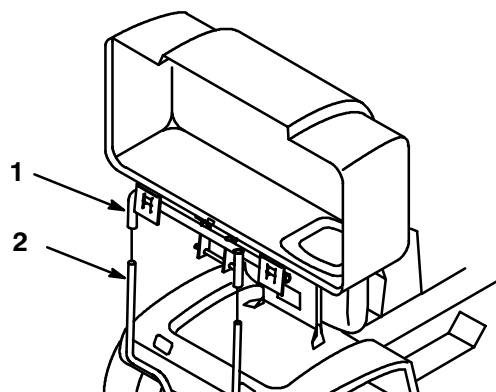

Figure 24
- Carefully lift the bagger top and slide off the quick-attach bracket (Fig. 24). The bagger top is easier to remove if two people work together.